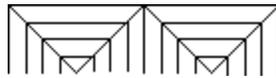

Figure 11 - Symbol of the bedrock as the end of boring
- The **End_of_borehole** curve displays the end of boring limit and, if the record of type **E** has a **code 1** of **R**, the bedrock symbol (illustrated in figure 11) indicating the refusal (or stop) of the boring on the bedrock, is drawn with the drawing attributes of the curve.